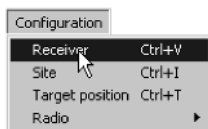

Figure 2-34. Configuration->Receiver
2. Click **Configuration->Receiver** (Figure 2-34).